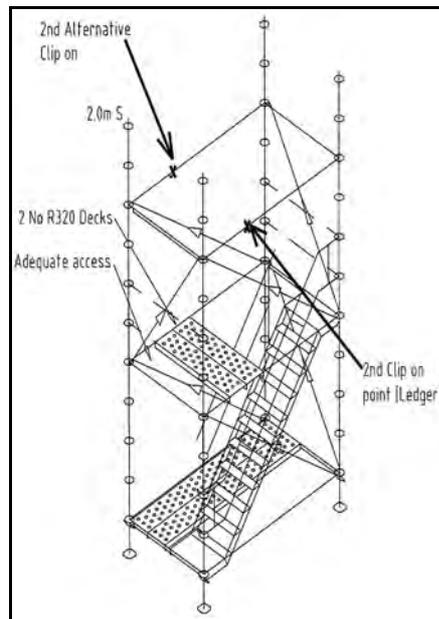

FIGURE 6.
11. Standing on the erection decks, connect 2 ledgers & 2-U-transoms at the 4m level. Transfer harness clip to ledger at the 4m level. (**See fig 6**). Lift the 2nd stair unit into place so that the lower landing engages into the same transom as the 1st stair upper landing.